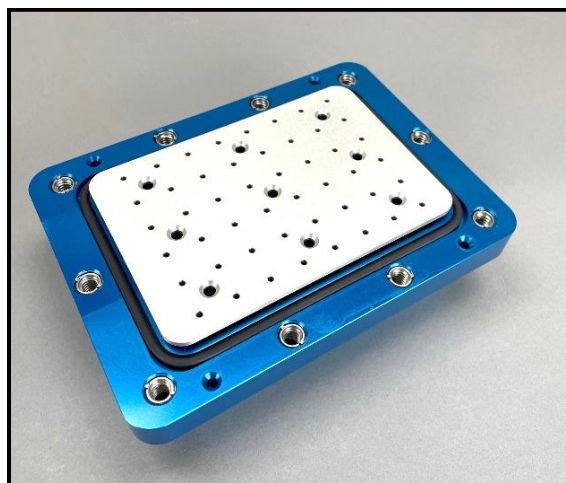

Figure 4. Vapor Flow Restriction Plate
2. Place a single PFA film **VP 416-48-FILM-HP** over the vials followed by a rubber mat **VP 416-48-MAT-HP** and the vapor flow restriction plate as seen in **Figure 4**.